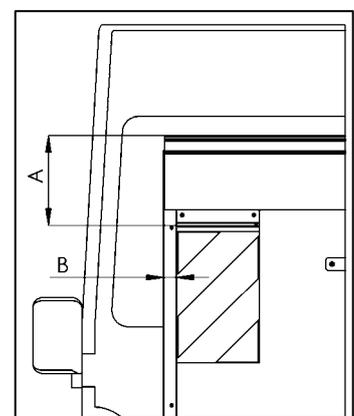
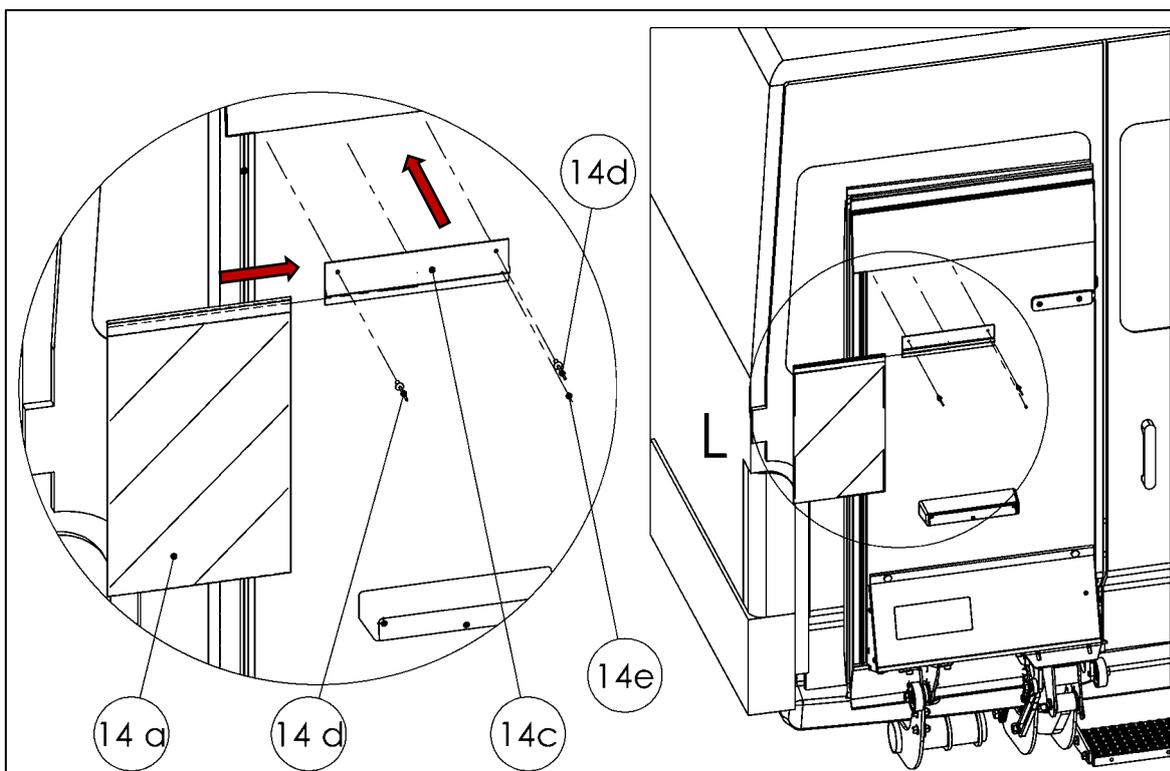
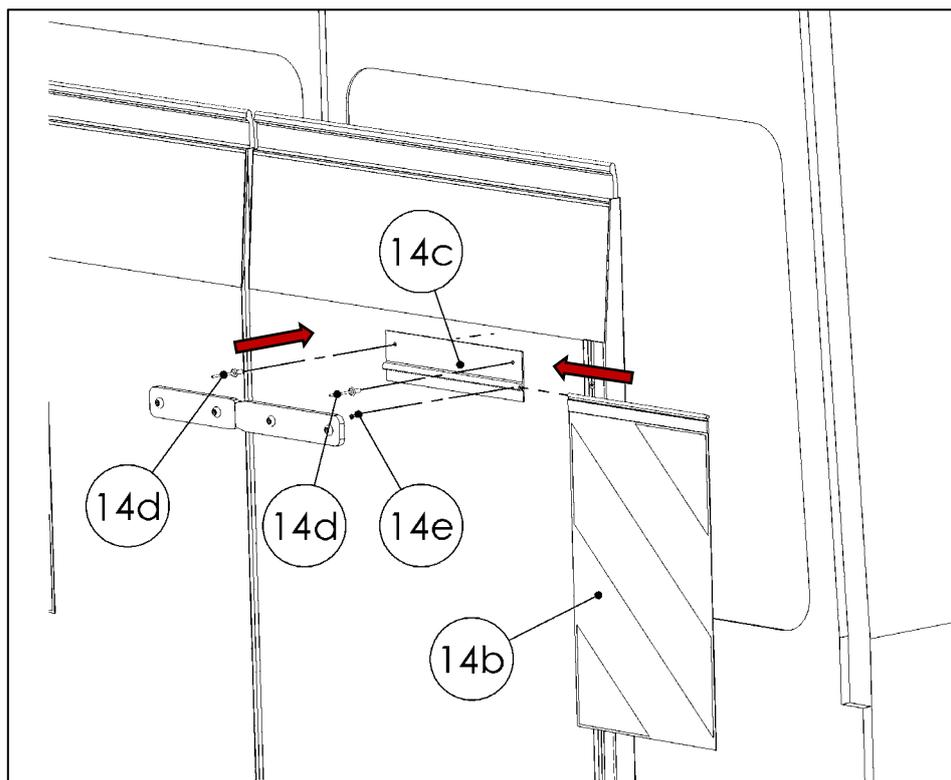

Figure 66
Figure 67
Figure 68
- Remove the warning flag kit (14, Part No. 60 710 330) from the accessories kit and mount it in accordance with the installation instructions below (Fig. 66, Fig. 67, and Fig. 68).
**IMPORTANT:** Identify right warning flag (14a) by the angle of the pattern (see Fig. 68)